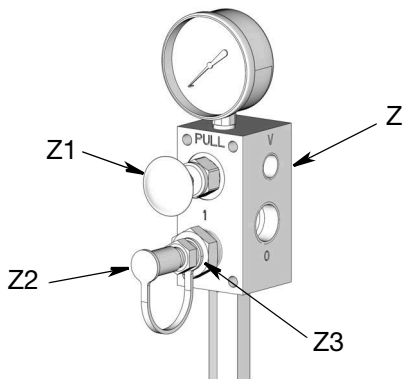

FIG. 13
1. Prior to starting the fill, pull out and hold black pressure relief knob (Z1) long enough to relieve line pressure between fill valve (Z) (FIG. 13) and Auto-Fill Shut Off (S).
3. Remove the yellow dust cover (Z2) from fill coupler (Z3) (FIG. 13, page 14).
4. Connect the refilling line (D) between the remote filling station's pump (P) and fill coupler (Z3) port marked with an "1" (FIG. 13, page 14).
5. Start the remote filling station pump (P).
6. When reservoir (K) is filled:
- the remote filling station pump (P) stalls (dead-heads),